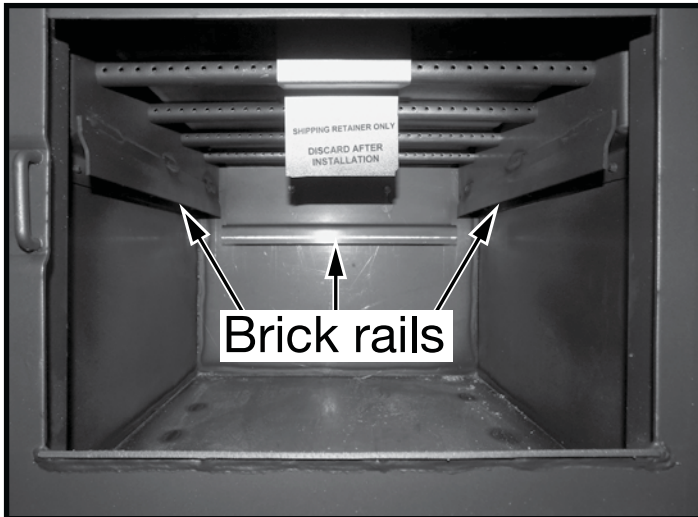

Figure 19: Firebox and brick rails.
1. Place the first brick up under the rear brick retainer (Figure 19) and slide it to either the far left or far right.